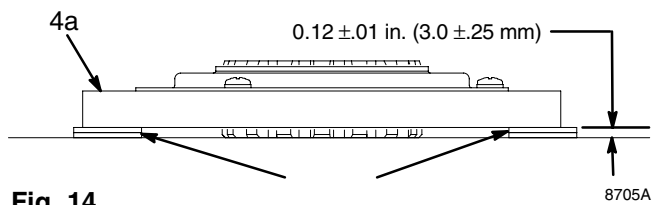

Fig. 14
1. Fig. 14. Lay two stacks of two dimes on smooth bench surface.
2. Lay armature (89) on two stacks of dimes.